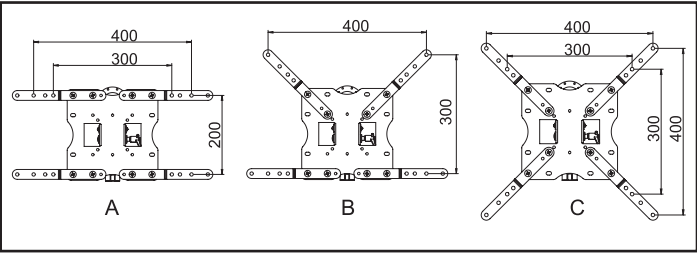

Figure 3
- b) If the mounting holes are spaced more than 200 x 200mm apart, check the chart and illustrations in Figure 3 to determine the correct orientation for attaching the adaptor plates to the mount.